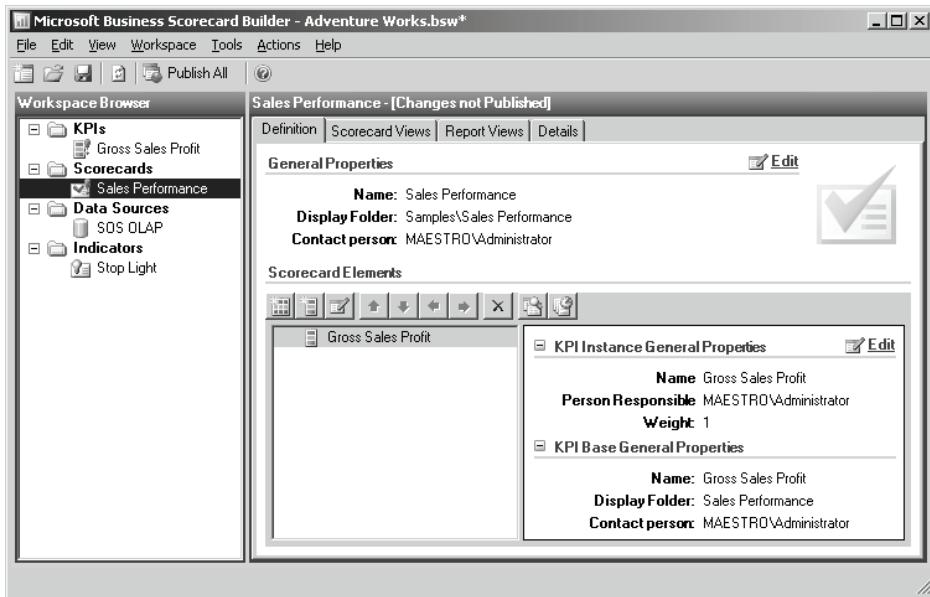

Figure 19.33 A scorecard is a hierarchy of KPIs.
3. In the Scorecard Editor, click on the *Add a KPI* toolbar button. In the Add KPI to Scorecard dialog that follows, expand the Sales Performance folder and select the Gross Sales Profit KPI. Click OK to add it to the scorecard (Figure 19.33).